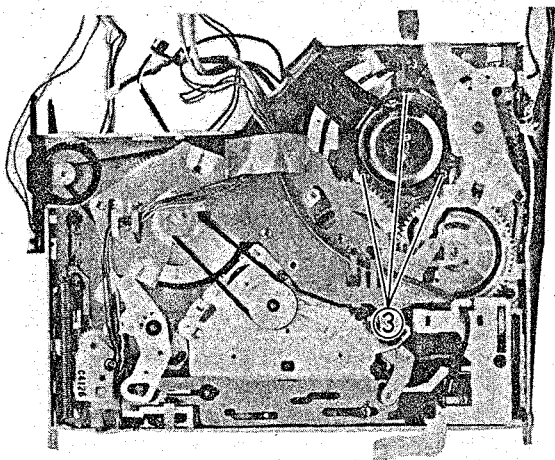

Fig. 2-83 Lower Cylinder (Cylinder Motor) Removal
3. Remove three (3) screws holding the lower cylinder and cylinder shield. (See Fig. 2-83)